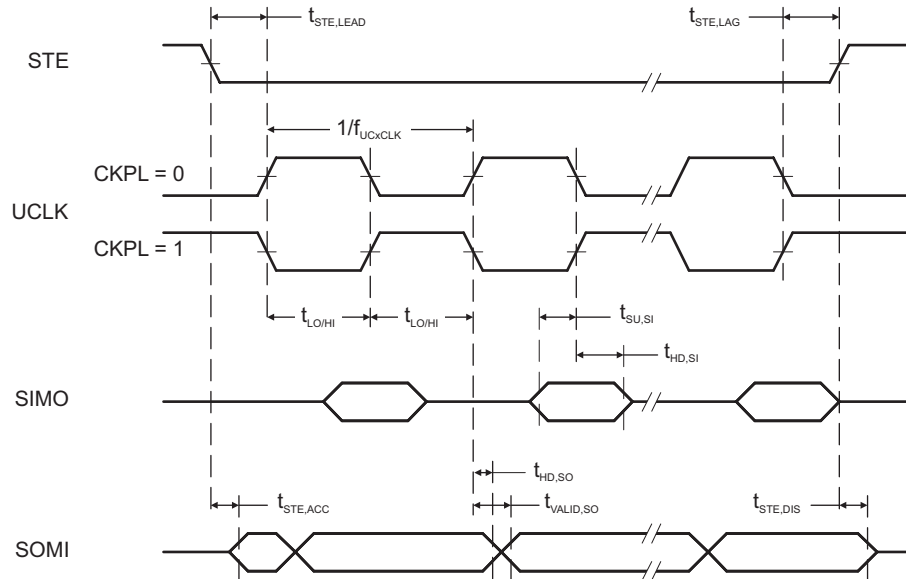
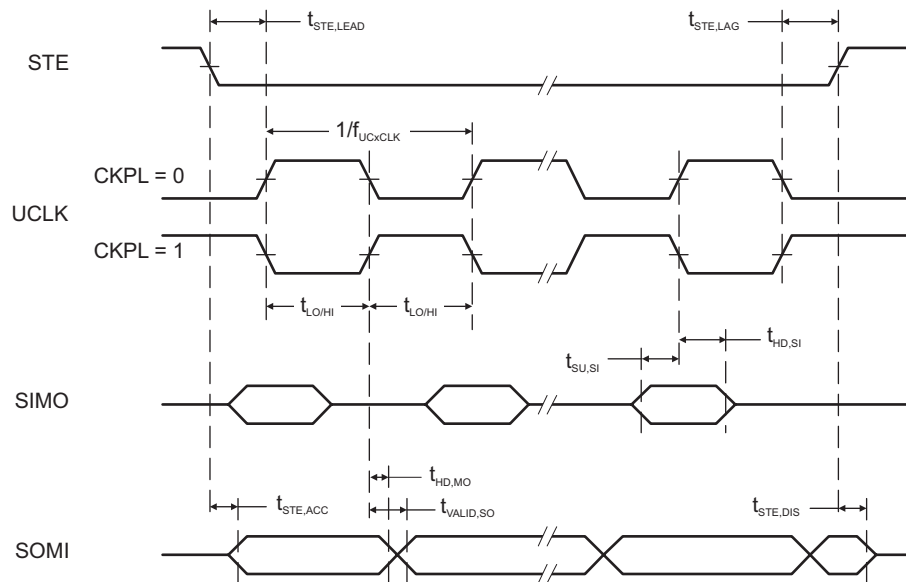

Figure 5-16. SPI Slave Mode, CKPH = 0
Figure 5-17. SPI Slave Mode, CKPH = 1
over recommended ranges of supply voltage and operating free-air temperature (unless otherwise noted)⁽¹⁾ (see Figure 5-16 and Figure 5-17)
- (2) Specifies the time to drive the next valid data to the SOMI output after the output changing UCLK clock edge. See the timing diagrams in Figure 5-16 and Figure 5-17.
- (3) Specifies how long data on the SOMI output is valid after the output changing UCLK clock edge. See the timing diagrams in Figure 5-16 and Figure 5-17.